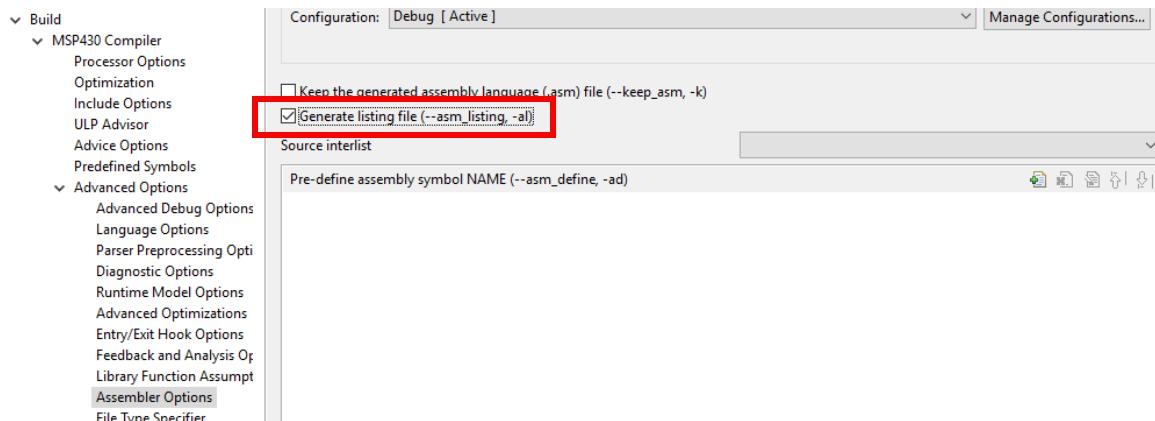

Figure 8 Project Assembler Options
- Select the “Build->MSP430 Compiler->Advanced Options->Assembler Options” to setup the listing file options. Select the checkbox “Generate listing file (--asm_listing, -al)” (Figure 8).